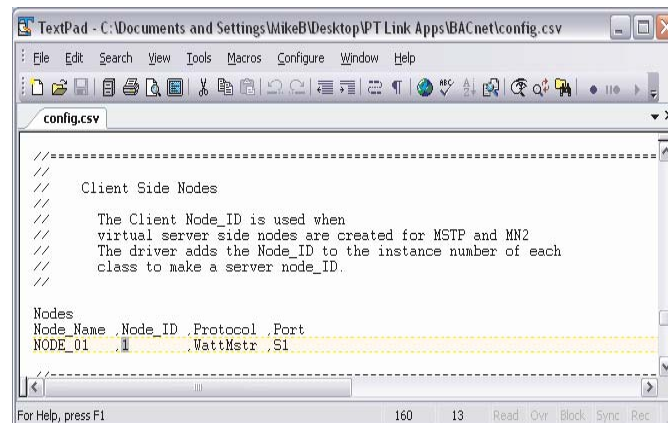

Figure 20: Changing the Node ID in Notepad
14.) The last change you may need to make is the Node_ID under ‘Client Side Nodes’ which is the BACnet Device Instance Number (**Figure 20**). The default is 1. You can obtain this information from your BAS Integrator.